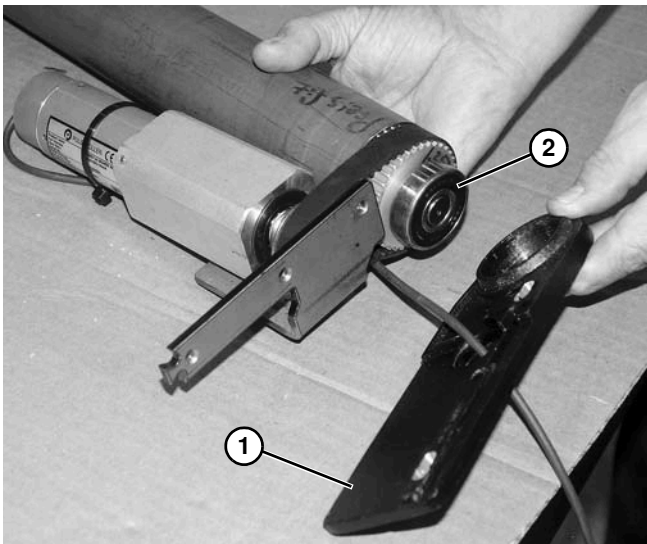

Figure 101
7. Remove end plate (**Figure 101, item 1**) from motor mounting bracket and bearing (**Figure 101, item 2**).